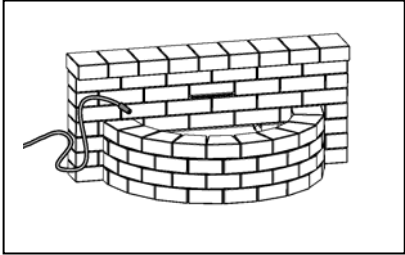

Fig. 12
12. Fill the tub with water. Fig. 12